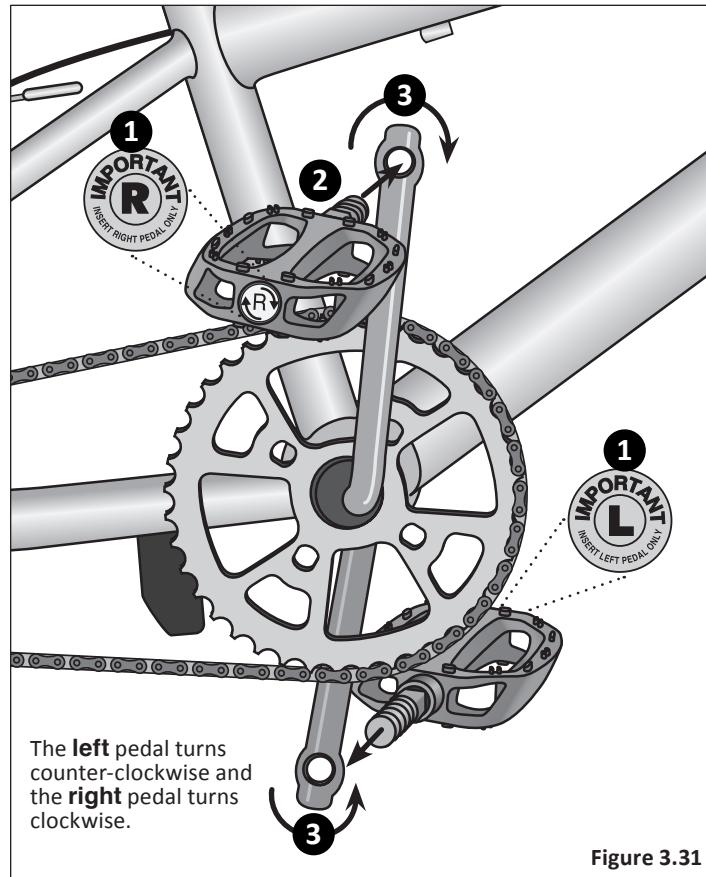

Figure 3.31
- Match the pedal marked R with the right-hand crank arm and match the pedal marked L with the left-hand crank arm. **Figure 3.31**